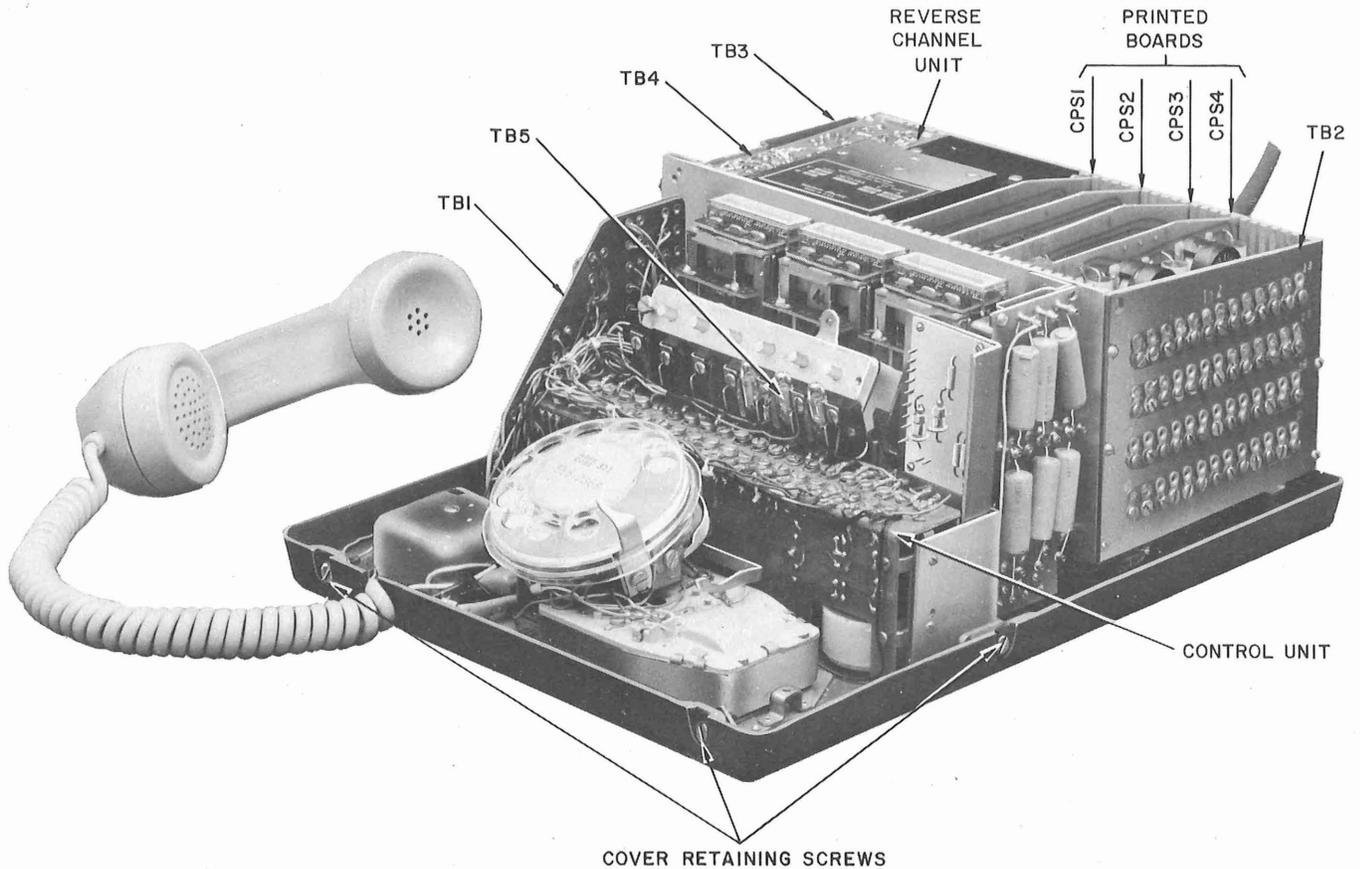

Fig. 1 — Data Set 402C Transmitter
- 2.01 Service options shown in Table A should be specified on the service order. The data set shall be wired accordingly. See Fig. 1 for location of terminal blocks.